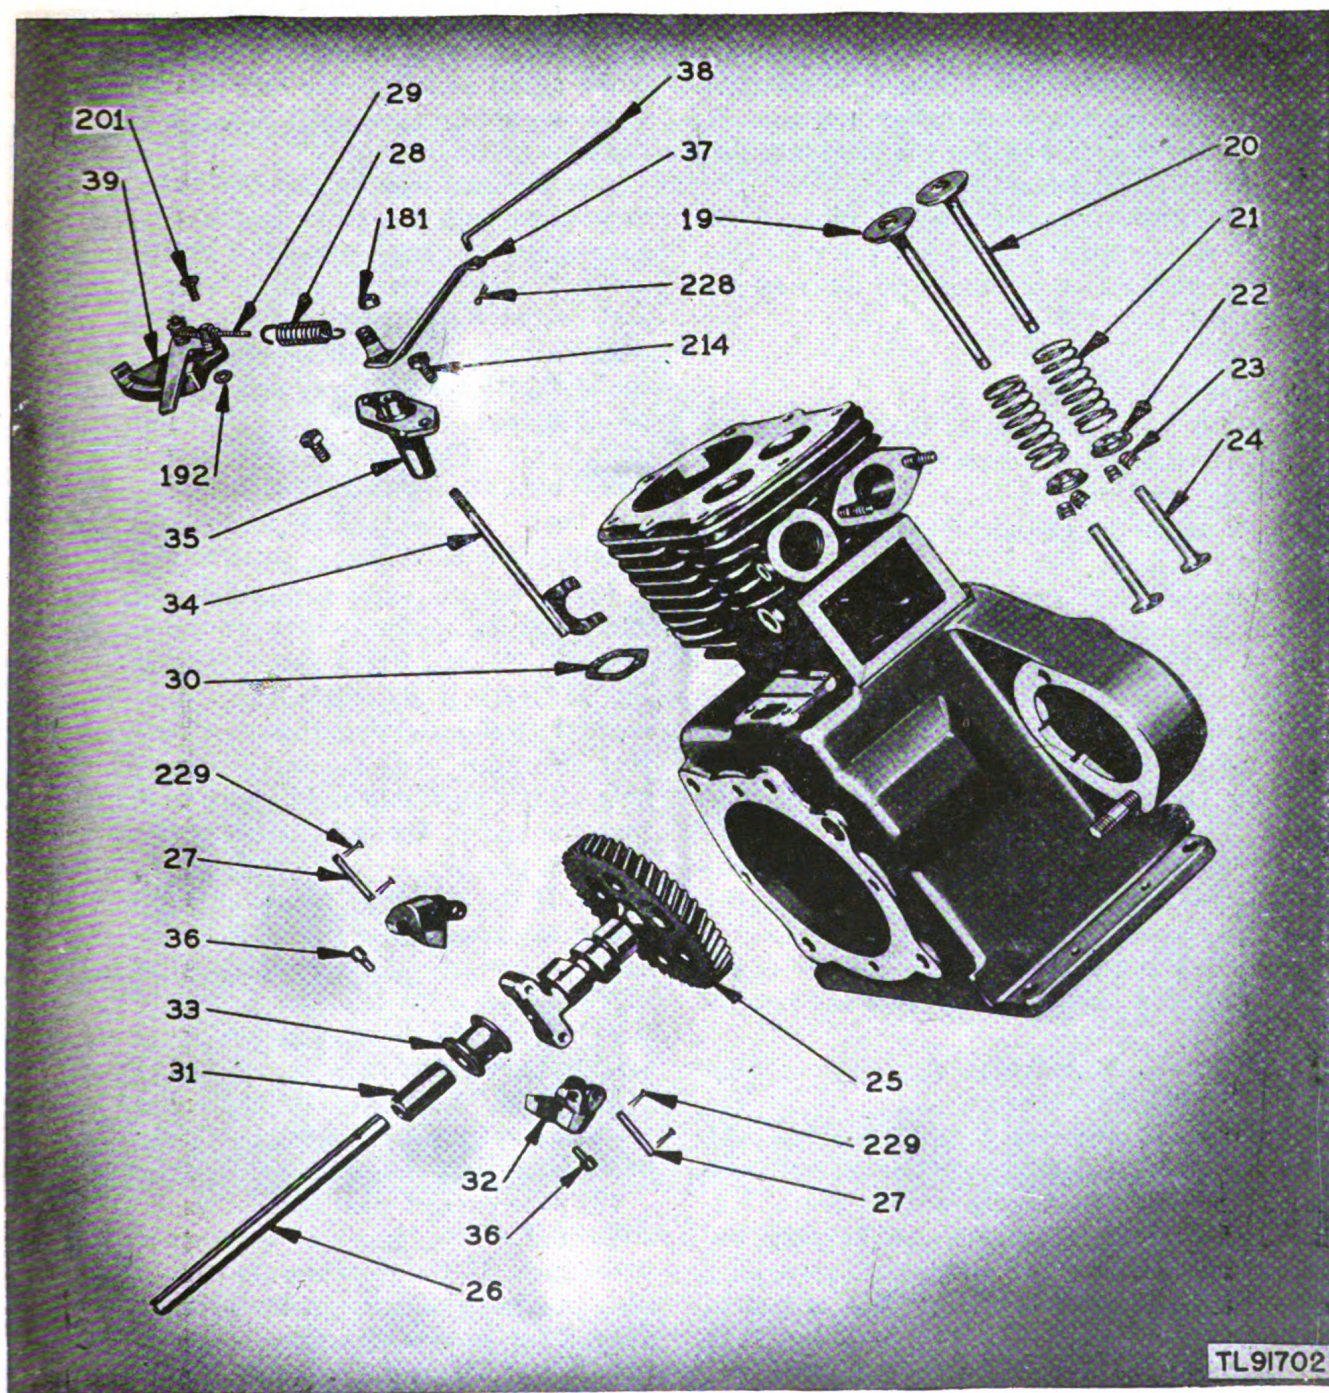
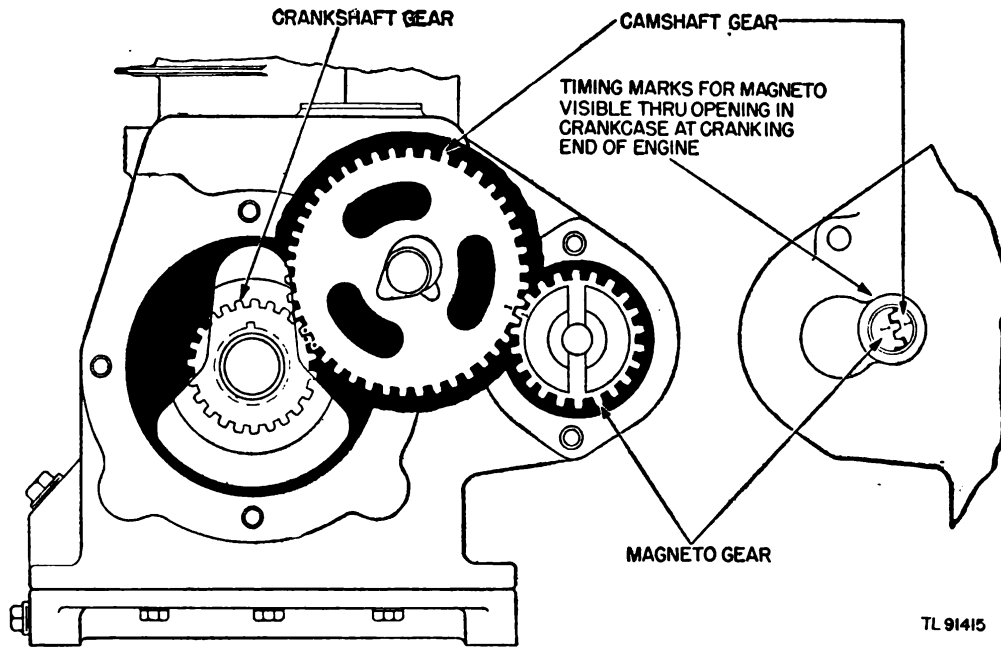
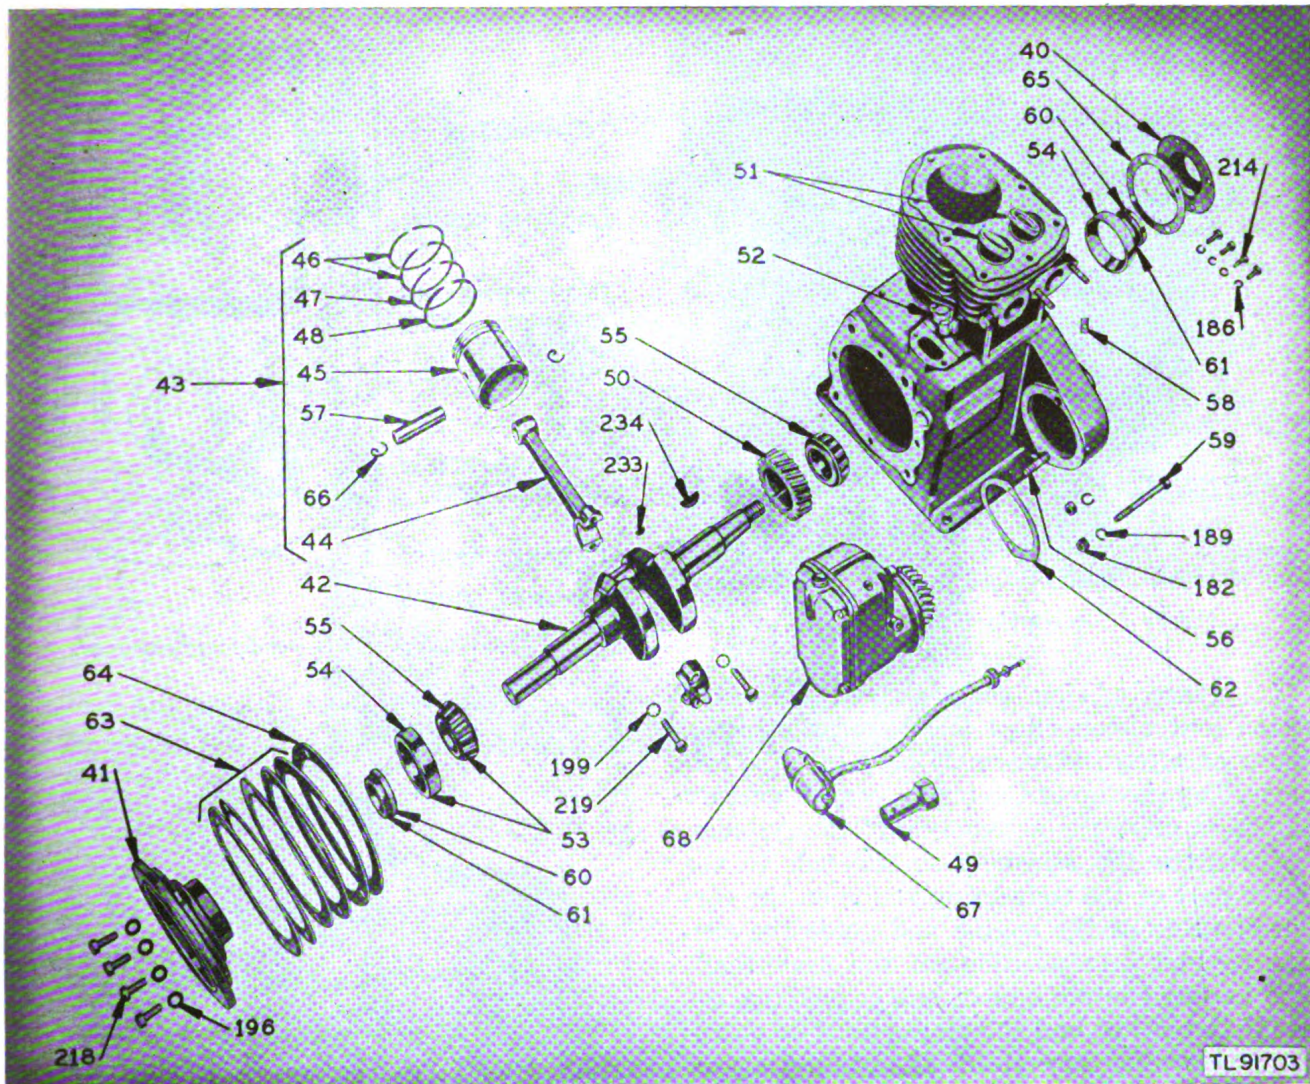

Figure 75. Valves, governor, and camshaft.
Figure 78. Timing diagram.
Figure 80. Crankshaft, bearing plate, piston, and connecting rod assembly.
rod (fig. 75(38)) from the carburetor.
j. Remove the float-chamber cover screws, lockwashers, cover, and cover gasket. (See fig. 78(211), (183), (120), and (121).)
o. Replace the air cleaner (fig. 32) and reconnect the governor-control rod. (See fig. 75(38).)
b. PROCEDURE FOR CARBON REMOVAL. (1) With a carbon-scraping tool or narrow putty knife, scrape the carbon from the inside of the cylinder head, the top of the piston (fig. 80 (45)) and from around the valves. (See fig. 75 (19) and (20).) Finish off with a wire brush.
(3) Insert a valve lifter between the valve-spring seat (fig. 75 (22)) and the bottom of the valve-spring chamber. Compress the valve lifter so as to compress the valve spring. (See fig. 75 (21).)
(4) Remove the valve-spring retainer locks (fig. 75 (23)) from the valve stems (fig. 75 (19) and (20)).
(5) Mark the valves so as to be sure of returning them to their original seats and remove the valves.
(6) Remove the valve springs and tag them so as to replace them correctly.
b. CLEANING AND GRINDING OF VALVES. (1) Scrape as much carbon as possible from the valves and clean them with a wire brush. Examine the valves for evidence of burning, excessive wear of the stems, and possible warping or bending. Replace any valve that is not in good condition.
(2) Select the first valve to be ground and place a light coil spring over the valve stem. This spring should be just heavy and long enough to lift the weight of the valve from its seat. Coat the face of the valve with a light, even coating of valve grinding compound and place it in position on the seat (fig. 75 (22))
(3) Make sure the valve tappet (fig. 75 (24)) is at its lowest point. Using a valve-grinding tool, bear down lightly on the valve and rotate it back and forth on its seat. Permit the spring to lift the valve every few rotations and give it a one-half turn while clear of the seat. Bear down again and continue the rotating action. Continue this action until a satisfactory seat has been ground.
(4) The seat may be assumed to be satisfactory when both the valve face and valve seat have a smooth, silvery band of uniform width around the circumference of the valve and valve seat. Remove the valve and wipe it off with a cloth dampened with Diesel oil (DA). Wipe off the seat with the same rag and place a series of pencil marks at close intervals around the face of the valve. Place the valve on its seat and rotate it about one-half turn while in contact with the seat. If the pencil marks are evenly smudged, the valve seat is satisfactory.
(5) Press the valve firmly down on its seat and check the clearance between the valve stem (fig. 75 (19) and (20)) and valve tappet. (See fig. 75 (24).) If the clearance is too close, remove the valve and grind its stem until the correct clearance ((8) below) is reached. Grind only a little at a time and be sure to grind it so that the end of the valve stem is square with the stem proper.
(6) If the clearance from valve stem to tappet is too great after grinding, it will be necessary to replace the valve and grind the new valve to its seat.
(7) Wash the valves and valve parts in Diesel oil, and be sure to clean any grinding compound from other parts of the engine. Check the valve springs by comparing them with new ones and replace those that are not satisfactory.
(8) The correct clearance between the valve stem and valve tappet is between 0.010 and 0.016 inch. If the clearance is less than 0.010 inch the valve must be removed and the stem ground for correct clearance. The clearance of the valve stem in the valve-stem guide should be between 0.003 and 0.005 inch.
(9) Reassemble the valves and other engine parts by reversing the operations for their disassembly. Make sure that all gaskets, washers, and lockwashers are replaced. Use new gaskets if the old gaskets are no longer serviceable.
from the magneto. (See fig. 41 (136).) Remove the cap screws (fig. 80 (59)) that hold the magneto to the engine base and remove the magneto assembly.
b. In replacing the magneto, turn the engine crankshaft until the mark on the camshaft gear is visible through the peep-hole in the front of the gear-case. (See fig. 78.) Turn the magneto gear so that the marked tooth will mesh with the mark on the camshaft gear. Place the magneto-mounting gasket in place and slip the magneto into place. Check to be sure that the timing gears are properly meshed (fig. 78), and fasten the magneto in place with the two cap screws, lockwashers, and nuts. (See fig. 80(59), (189), and (182).) Replace the ignition wire and shielding in their original position. Be sure to push the ignition wire all the way down into the terminal.
a. REMOVAL. (1) Removal of the oil pump
(2) With the engine base removed, remove the two cap screws (fig. 80 (219 and 199)) and washers that hold the connecting-rod bearing cap to the lower end of the connecting rod and remove the bearing cap. With this cap removed, tap the lower end of the connecting rod with a hammer handle and push the piston and connecting rod up through the cylinder bore. Grasp the top of the piston and pull the assembly (fig. 80 (43)) out of the cylinder.
(3) Before withdrawing the piston from the cylinder, check the clearance between the skirt of the piston and the cylinder bore. This check must be made with the piston in a normal position within the cylinder bore. The correct clear-
(2) Place a ring compressor around the piston and piston rings and lower the piston and connecting rod assembly back into the cylinder. Tap the top of the piston with a hammer handle to drive the assembly into the cylinder.
(3) Turn the assembly so the hole in the lower part of the connecting rod is on the carburetor side of the engine and guide the connecting rod into position on the crankshaft. The cap and lower end of the connecting rod are both marked and the marks must be on the same side when assembled. The connecting-rod bearing should have a clearance of between 0.001 and 0.002 inch on the crankshaft (fig. 80(42)) and a side clearance of between 0.006 and 0.010 inch. Replace the cap screws and washers and turn them up tight.